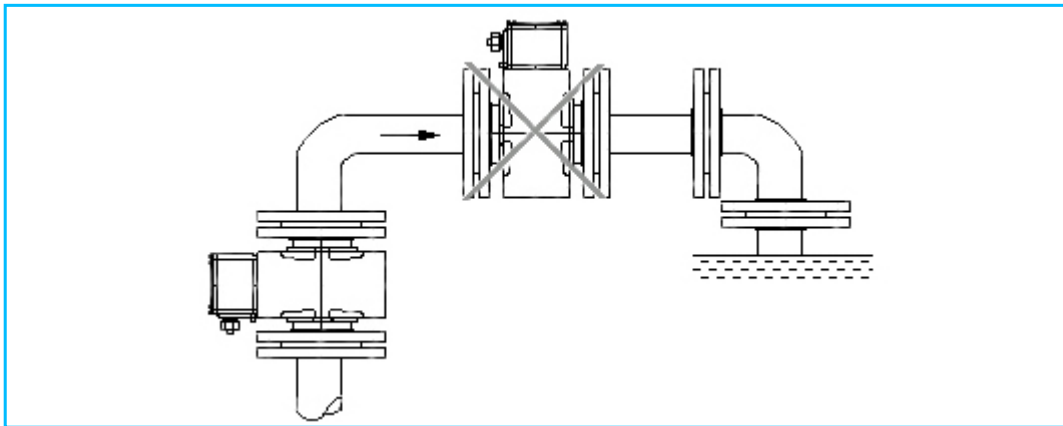

Fig. 9 :
- For free outflow do not install instrument at the highest point or in the drop line(meter pipe may drain, air bubbles), (Fig. 9.)